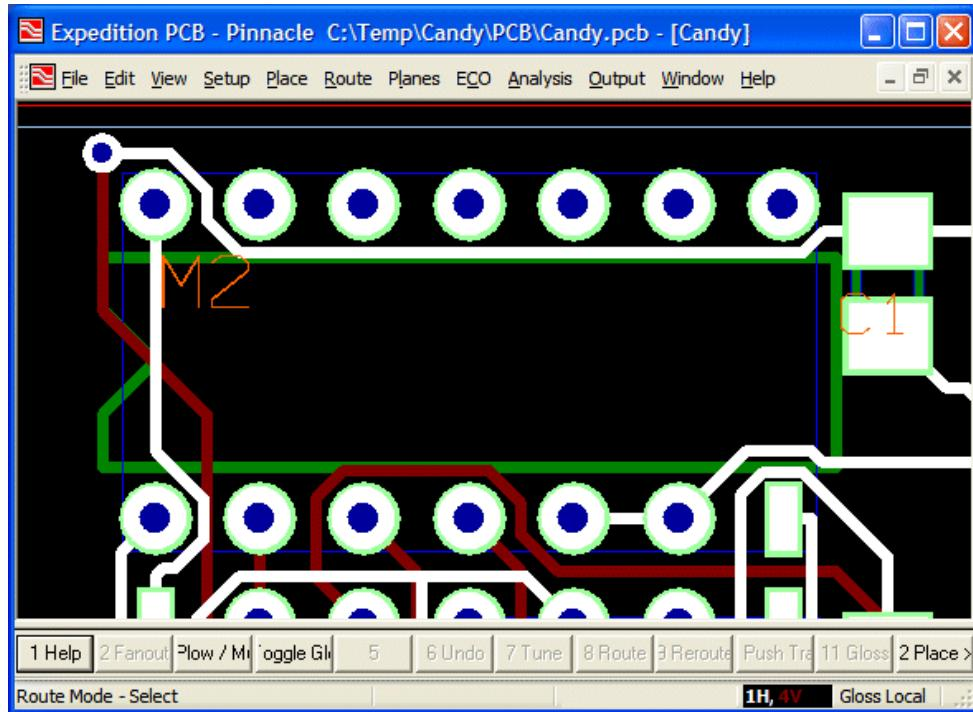

Figure 12-3. Zoom in on component M2 in the Candy.pcb design document.
- 2) Open the *Candy.pcb* document and zoom in on component *M2* as illustrated in Figure 12-3.